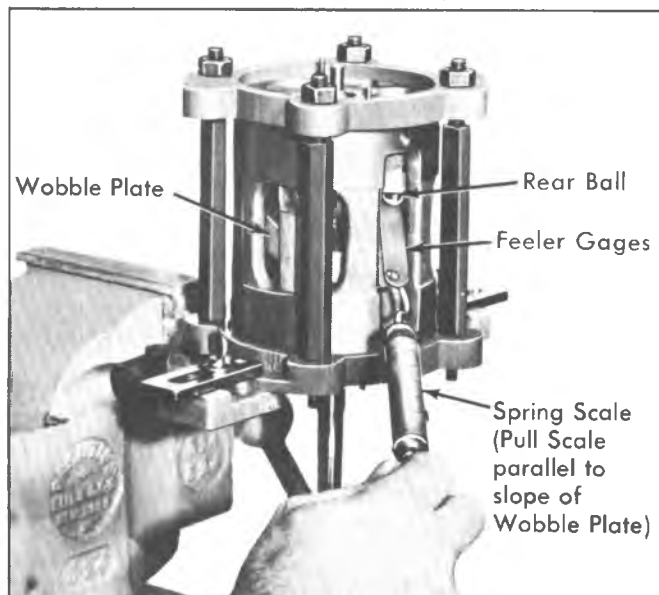

Fig. 23--Checking Clearance Between Rear Ball and Wobble Plate
12. Use a leaf type feeler gauge and a suitable spring scale to check clearance between the REAR ball and the wobble plate (fig. 23) of the No. 1 piston. Use a suitable combination of feeler gauge leaves until 4 to 8 oz. of force is required to pull gauge from between the ball and the plate.